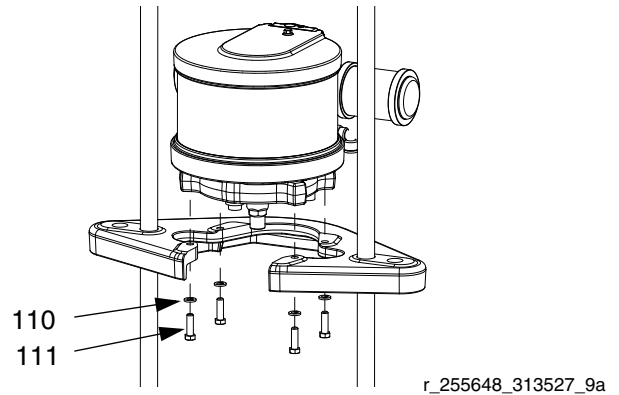

FIG. 25: NXT 200-1800 with 55 Gallon Platen
- b. For NXT 200-1800 with 55 gallon platen (D200 3 in. and D200s 6.5 in. supply units): Remove screws (111) and washers (110) securing motor to mounting plate. See FIG. 25.
2. For *NXT200-1800*: Attach motor to mounting bracket with screws (111) and washers (110). See FIG. 25 on page 27.
- b. Connect air hose to motor. If using a remote DataTrak, connect electrical connections to the air motor. See FIG. 25 on page 27.
3. Connect air hose to motor. If using a remote Data-Trak, connect electrical connections to the air motor. See FIG. 25 on page 27.